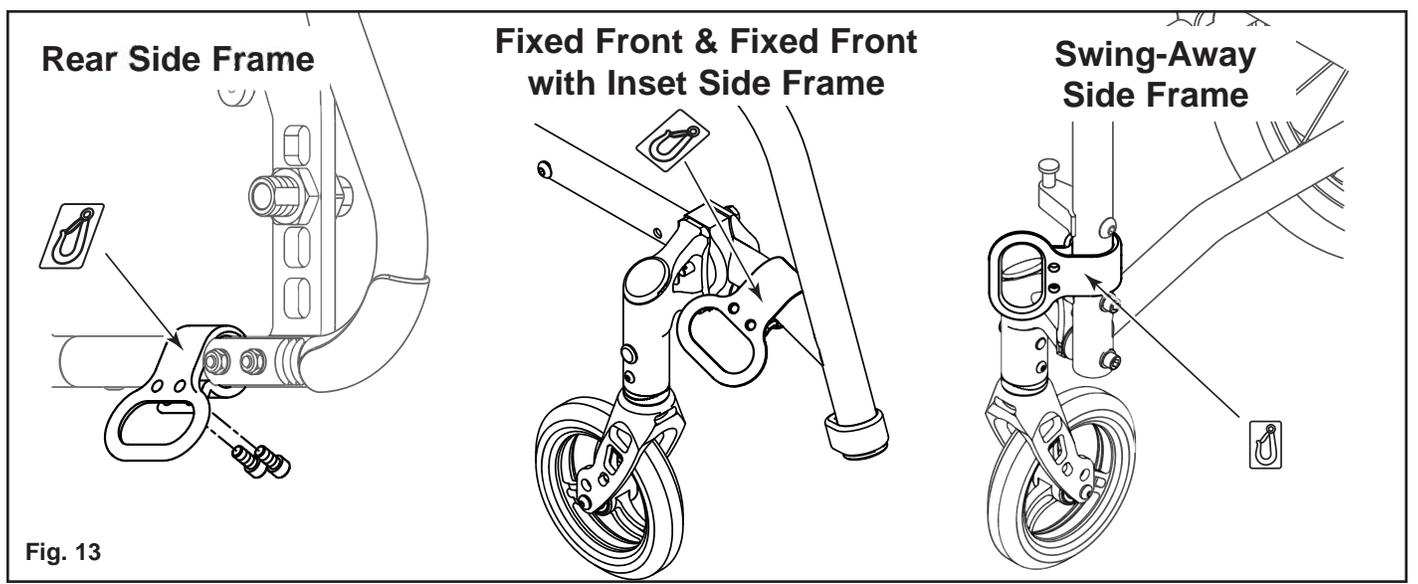

Fig. 13
15) Install all four decals (Fig.13).